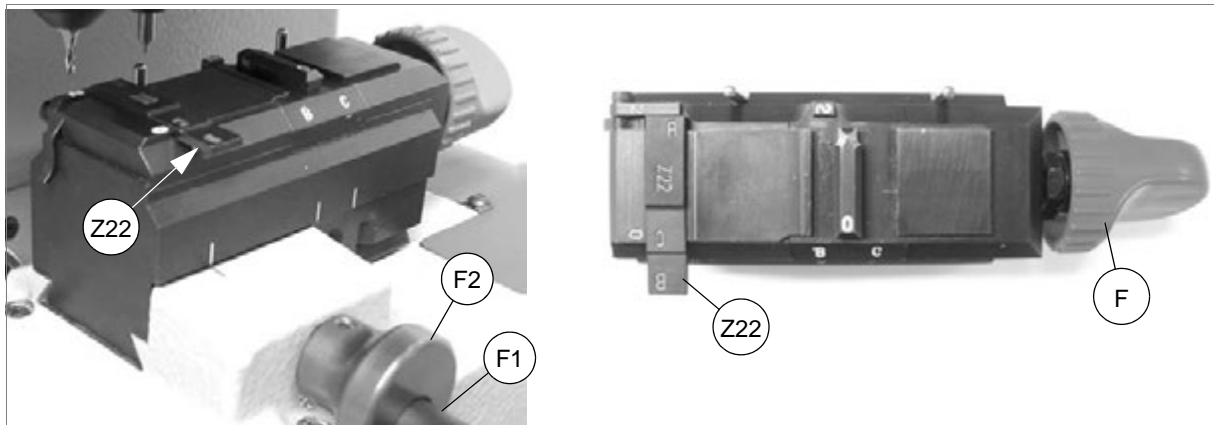

Fig. 30
- Turn the (F) knob to the left.
- Fit the Z22 template into jaw A (fig. 30) so that it lies flat against the clamp with the area marked A up against Stop 2 (to do this, turn the Stop1 plate to the left and downwards).
- Secure the Z22 template by turning the (F) knob to the right.